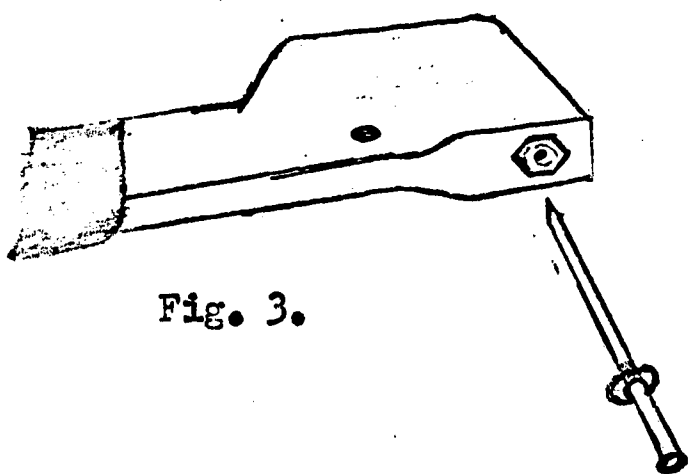

Fig. 3.
2. Check and see that the nosepiece for 1/8" "pop" rivets is placed in the nosepiece of the riveter. Now fully open the handle of the riveter and place the stem of the 1/8" "pop" rivet in the nosepiece of the tool. See Fig. 3.